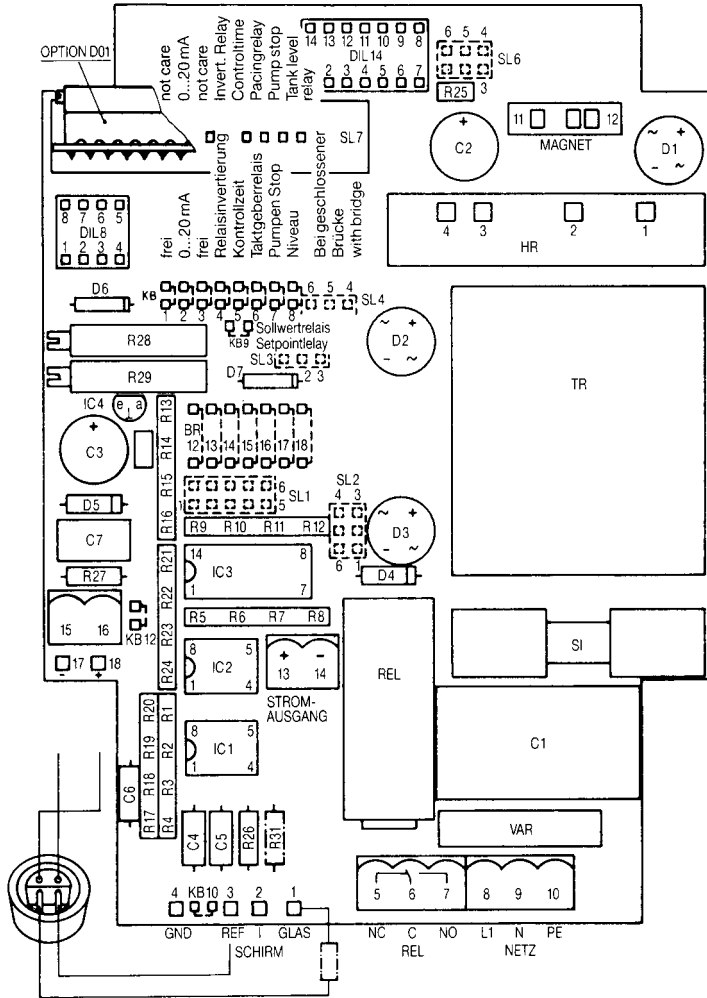

Fig. 3: Control circuit board (E)
3.4.1 Control Circuit Board (Fig. 3 and 4)
Fig. 3 gives a view of the control circuit board (E) of Fig. 1. The connector (MG) of the solenoid is located at the top right. SL 7 at the top left is a connector strip to accommodate the optional circuit board "Standard output signal" (Fig. 3b) if option signal output was ordered. This optional circuit board must be plugged in in a way that the potentiometer screws face the edge of the circuit board. Below, there is an 8-pole socket DIL 8, accepting the flat cable connector of the optional circuit board (H) (Figs. 1, 3a and 5) when relay option E "Control time" is included. Next to the right lower corner of the DIL 8 socket, there are 8 plug-in jumpers KB 1 to KB 8 which have the following functions when open or closed: